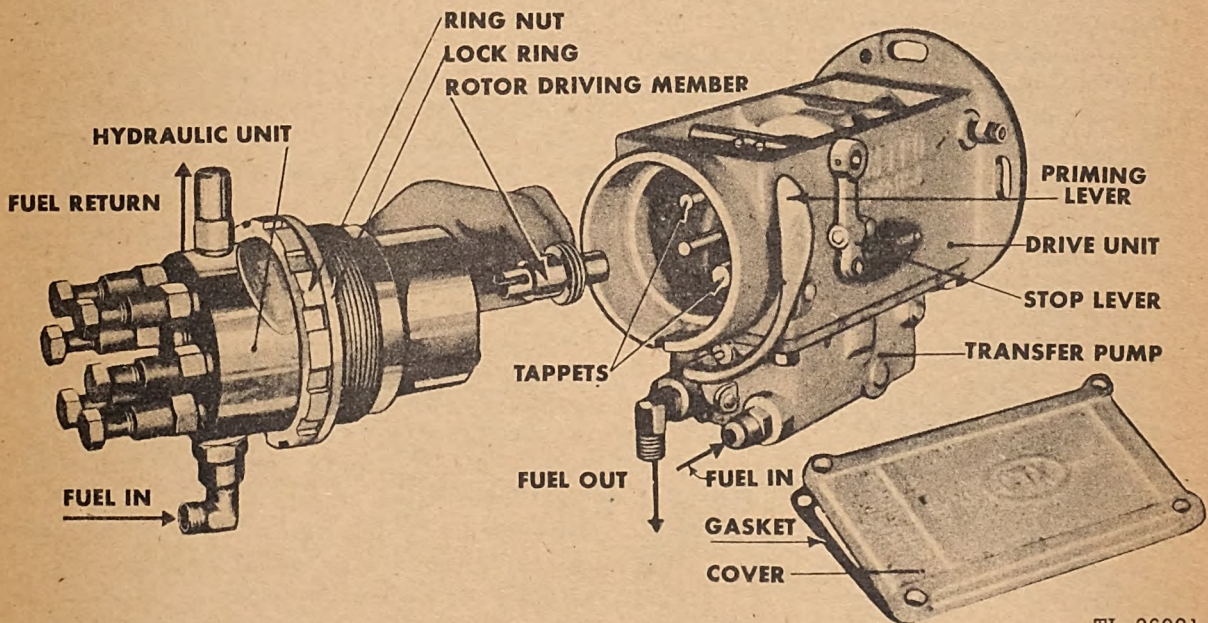

Fig. 269. Removing Hydraulic Unit
a ring nut lock. The hydraulic unit is "indexed" in the drive unit body by a locating pin fastened in the hydraulic unit, which fits into a slot milled in the drive unit body. A tang on the nut lock also fits in this same slot, thereby preventing turning of the lock. (See Figure 269.) To remove the hydraulic unit from the pump and to replace it, proceed as follows:
is not lost. (See Figure 269.) If the hydraulic unit is not to be immediately replaced, cover the pump with a cloth to keep out dust and dirt. Do not unwrap the new hydraulic unit until you are ready to screw it in place. Should the unit come in contact with dirt, it should be rinsed with clean fuel, freshly drawn in a perfectly clean container.
(7) Enter the hydraulic unit in place with the locating pin in the slot which is cut across the threads for the large ring locking nut in the bottom of the pump body. (See Figure 269.) The tail of the guard or lock for the large ring nut must also enter this slot.
(8) With one hand, press the hydraulic unit forward, and with the other, screw the large ring locking nut into place. (At the forward end of the rotor, is an offset rotor driving tang which enters an offset slot in the splined rotor driving member. If this tang does not enter the slot, no damage will be done, as the rotor return spring simply is compressed until the engine is cranked, at which time the tang will snap in place.) To press the hydraulic unit into the drive body recess and to turn the ring nut should require very little force or effort, until the nut draws the hydraulic unit into place close to the end of the thread. Then the nut should be tightened firmly by the special spanner wrench. DO NOT USE A PIPE OR A HAMMER ON THE WRENCH AND DO NOT USE A HAMMER AND A PUNCH FOR TIGHTENING THE NUT. When the nut is tight, a hammer and a punch should be used to depress a section of the lock ring into one of the spanner slots of the large ring nut, thus locking it against loosening.